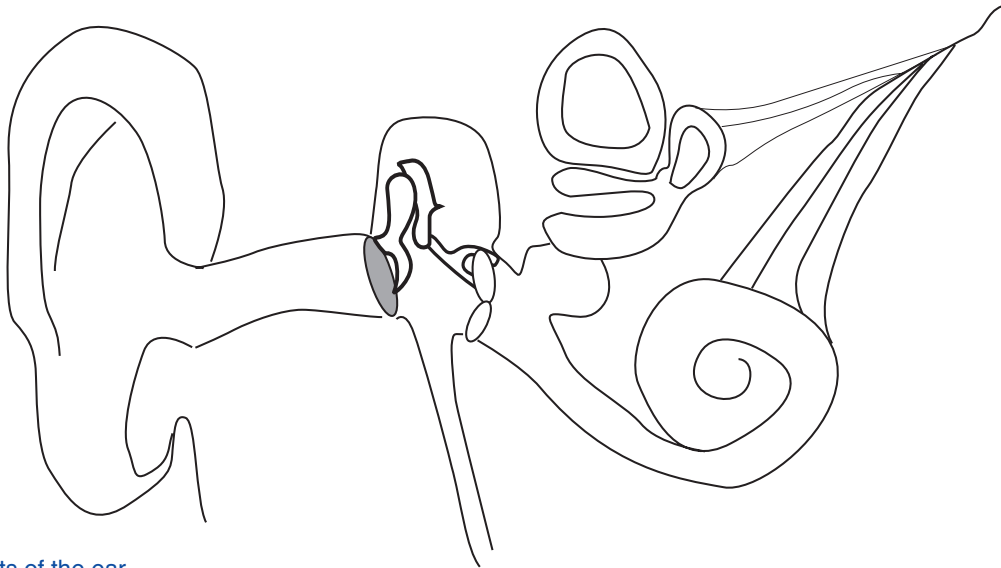

Figure 159.2 Parts of the ear
- Mark in the following anatomical features in Figure 159.2:
- Use your textbook index to find the section on seasickness and use Figure 159.2 to explain how people get seasick.